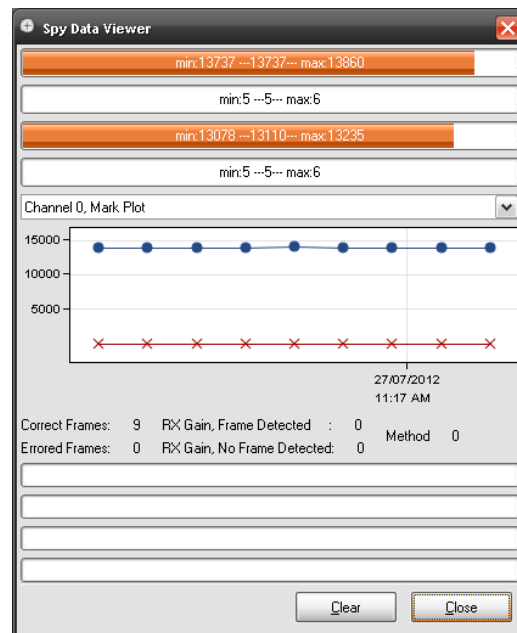

Figure 17. The Terminal Spy Window Graphically Shows the Current and Historical Signal and Noise Levels
- The ON-PL110 and IEC firmware can report the signal and noise values when frames are received. This can be very helpful during debugging; to enable it, issue set 3300 = 1. The reported values can be shown graphically in the spy window (depicted in Figure 17) with the spy command. The last reported levels are displayed by the four top bars; the historical levels are rendered in the graph below.